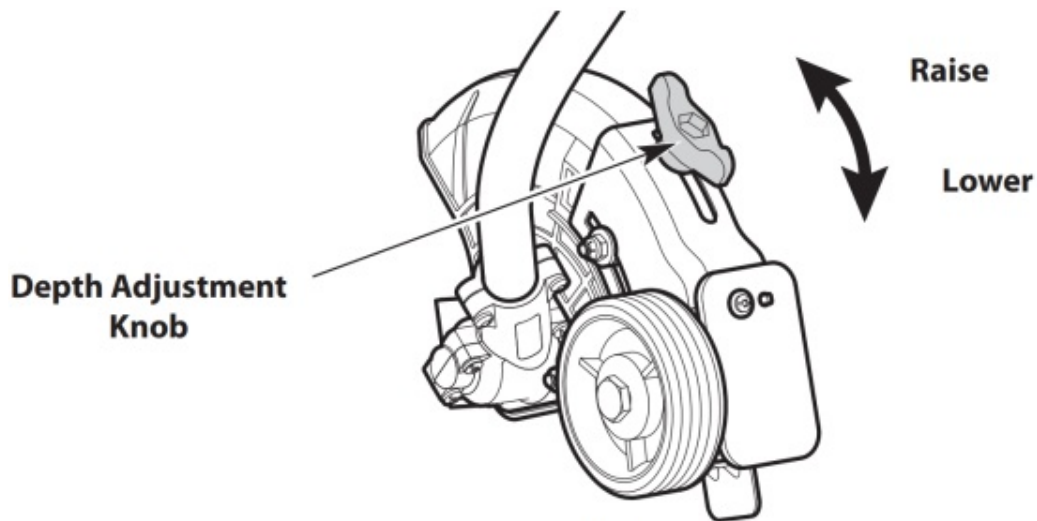

Fig. 6
1. Loosen the depth adjustment knob (Fig. 6).